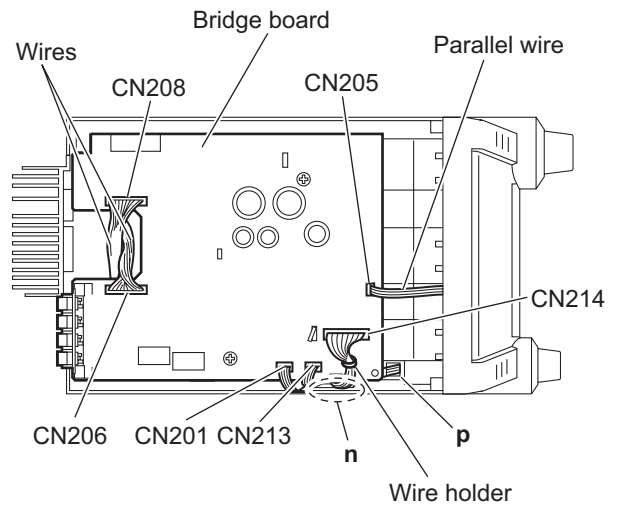

Fig.19
3.1.9 Removing the bridge board (See Figs.19 and 20)
- (1) From the top side of the main body, disconnect the wires from the connectors (CN206, CN208, CN214) on the bridge board. (See Fig.19.)
After connecting the wire to the connector CN214, fix the wire with the wire holder. (See Fig.19.)
- (2) Disconnect the parallel wires from the connectors (CN201, CN205, CN213) on the bridge board. (See Fig.19.)
- When reassembling, pass the wires through the sections (**n, p**) of the plastic chassis. (See Fig.19.)
3.1.11 Removing the primary board (See Figs.19,21,22,24 and 25)
(1) From the top side of the main body, disconnect the wires from the connectors (CN206, CN208, CN214) on the bridge board. (See Fig.19.)
(2) Disconnect the parallel wires from the connectors (CN201, CN205, CN213) on the bridge board. (See Fig.19.)